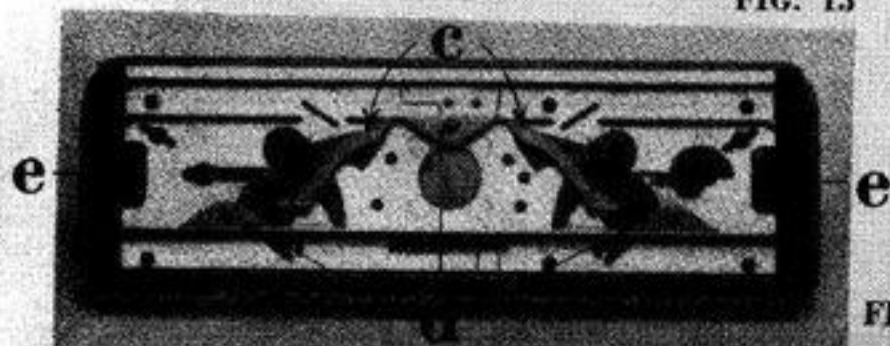

FIG. 14
As a result of the working of the cams (2 mobile (C) and 3 fixed (D) (FIG. 14), the needles, which are fed with wool from the thread-guide, will knit. Springs (E) (FIG. 14) enable the needles to be arranged before the cam box moves completely across.